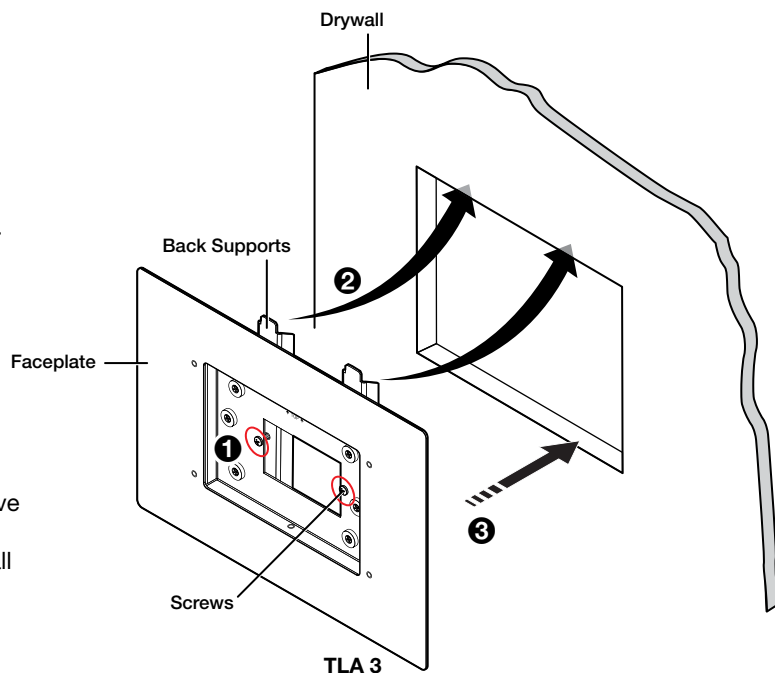

Figure 3. Installing the TLA 3 in Drywall
Figure 3 shows how to install the TLA 3 into a preexisting hole cut in drywall.
3. Loosen the screws holding the back bars of the TLA 3 (see figure 3, **1**).